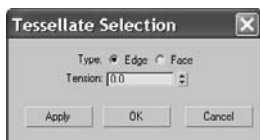

Figure 4.88
- Let's add some knuckles at the end of the fingers. You are going to use a tool for adding detail that is another way of subdividing a polygon. Tessellate doesn't give you the control options the Cut tool does, but it can be more precise. The Tessellate button is under the Edit Geometry rollout in the Modify panel. Two Tessellate methods are available: Edge and Face (Figure 4.88).